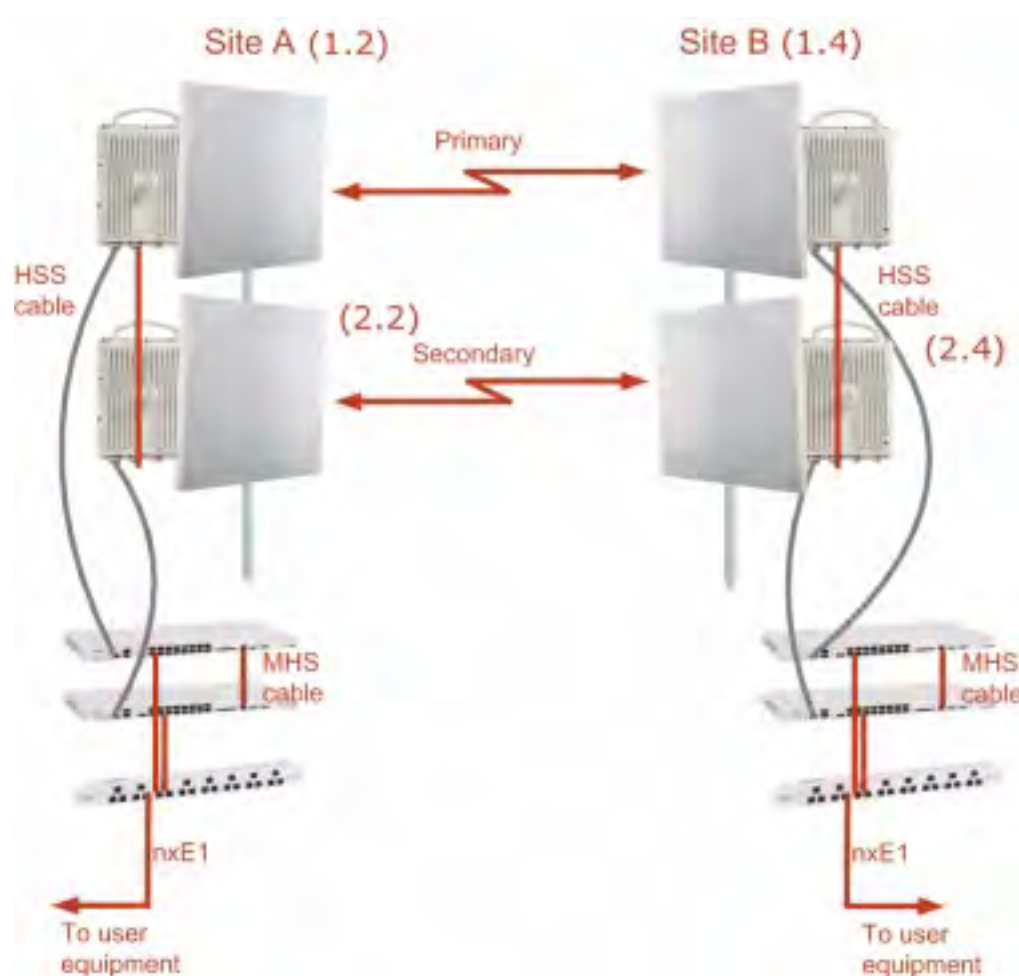
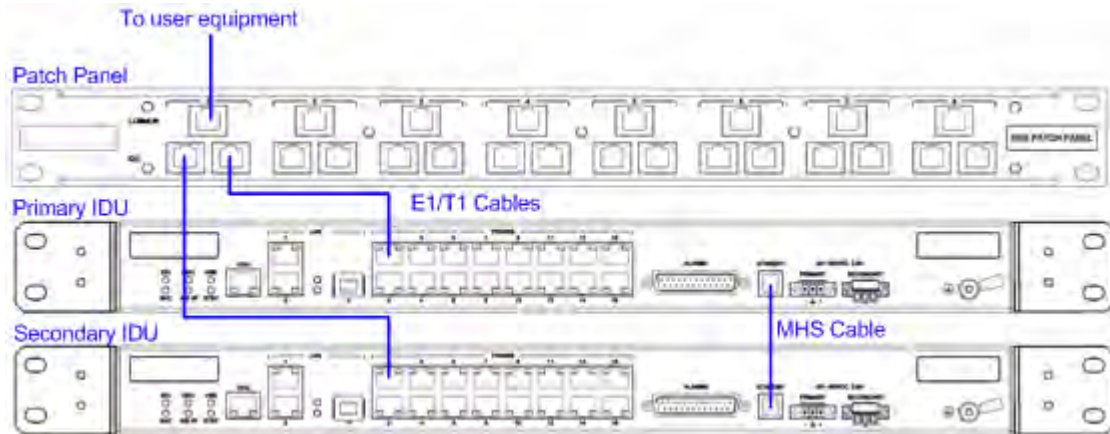

Figure 12-1: RADWIN Monitored Hot Standby
Figure 12-3: How to connect the IDUs to the Patch Panel
The RADWIN Monitored Hot Standby (MHS a.k.a 1+1) is a duplicated link set up as a primary link and a secondary link in hot standby mode as shown in Figure 12-1 below.
Figure 12-1 above is a schematic of a RADWIN MHS. Figure 12-3 shows how to connect the IDUs to the Patch Panel.
3. The links intended as the primary and secondary will be referred to their respective names, Primary Link and Secondary Link as shown in Figure 12-1 above, despite their having yet to be installed.
6. Connect the MHS cables at Sites A and B as shown in Figure 12-1 and Figure 12-3 above.